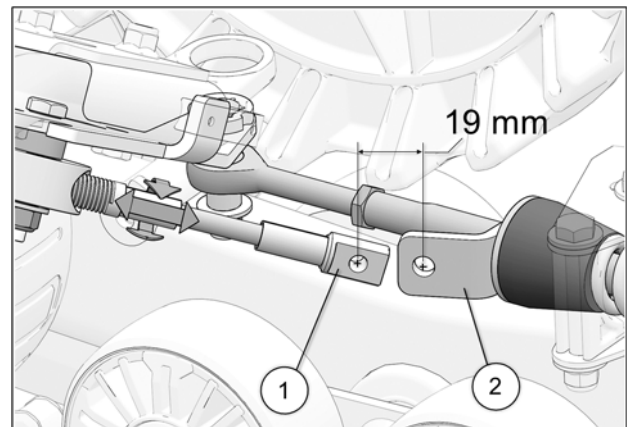

Fig. 26
15. Turn the vehicle's steering wheel to its maximum point of travel on the left. While maintaining pressure on the steering wheel, turn threaded rod to adjust length of cable. See Fig. 26
16. Position cable end hole (1) 19 mm [$\frac{3}{4}$ in.] short of support plate (2) mounting hole. See Fig. 26